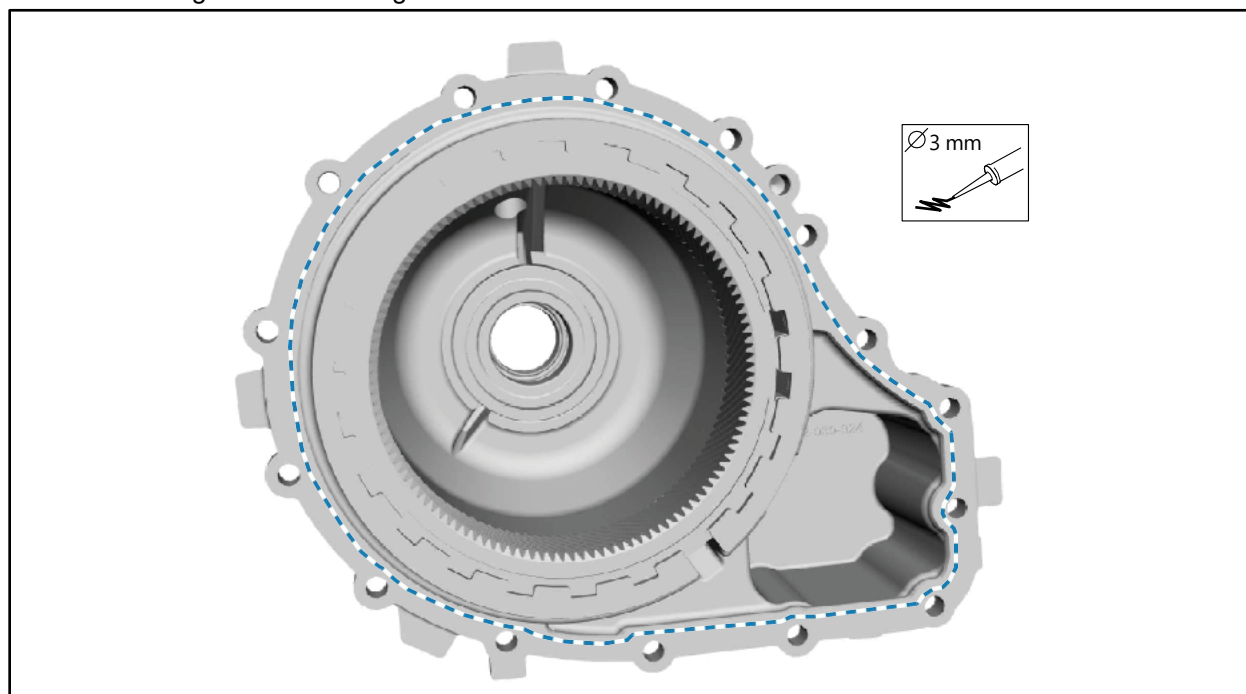

FIGURE 31
34. Apply a 0.12 in (3 mm) diameter bead of Motorcraft® Ultra Silicone Sealant to the differential case cover sealing surface. See Figure 31.